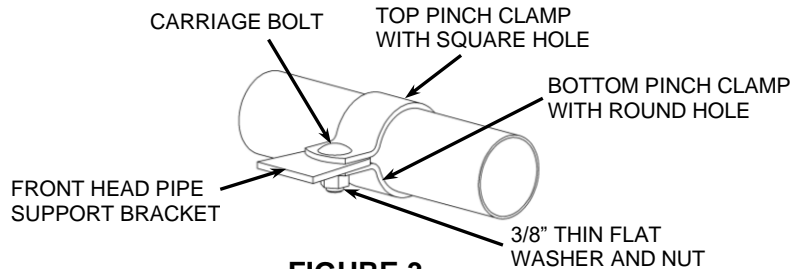

FIGURE 3
11. Position the supplied top and bottom pinch clamps over the front headpipe making sure the square hole on the top clamp is facing up and towards the inside. Position the pinch clamps over the support bracket so that the pinch clamp captures both sides of the bracket. See **FIGURE 3**. Insert the supplied 3/8" carriage bolt through the top pinch clamp, support bracket, and the bottom pinch clamp. Install the 3/8" thin flat washer and nut onto the bottom of the carriage bolt but **DO NOT TIGHTEN** at this time. Leave the nut loose so the headpipe can be adjusted.
18. Then fully tighten the flange nuts on the exhaust port studs, followed by the nut for the 3/8" carriage bolt on the front headpipe support clamp and the nut on the front headpipe support bracket. See **FIGURE 3**.